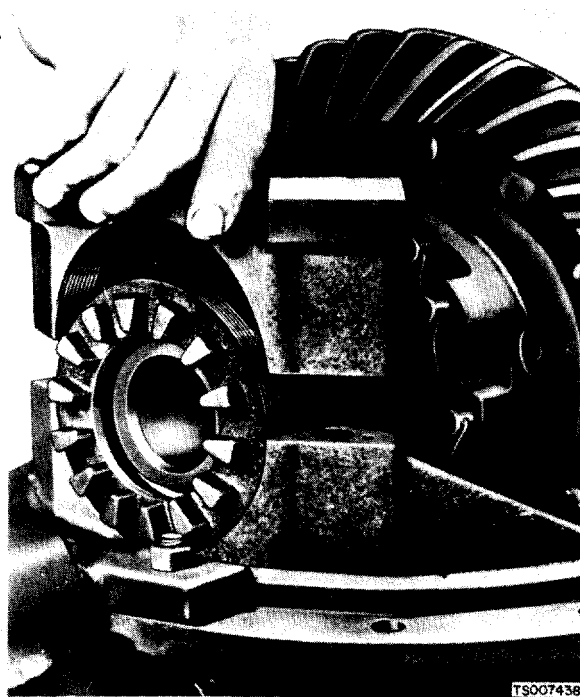

Figure 10-10. Installing Differential Bearing Caps.
(1) Press differential pinion bearings on pinion, using an arbor press and tubular pilot which will contact the inner race of the bearing only. Install pinion into differential carrier housing.
(2) Press differential bearings onto case assembly. Bolt ring gear to case and tighten screws around ring gear flange to 82 ft/lbs.
(3) Place thrust washers behind side gears and fit side gears into differential case. Position pinion gears in mesh with side gears, and with thrust washers in place, press side gear pin through pinions and case.
(4) Install differential assembly into housing, with bearing cups in place on differential case bearings. Position threaded adjuster nuts as shown in figure 10-10 and install bearing caps.
(5) Check ring gear and pinion contact by applying oiled red lead to the ring gear teeth. Rotate the pinion through one full turn of the ring gear. The red lead will be squeezed away from the areas of tooth contact, leaving bare spots on the ring gear teeth which are the exact size and shape of the tooth contact.
(6) The proper pattern (on drive side of teeth) will be centered between root and top of the ring gear teeth and will be slightly toward the toe of the tooth; that is, closer to the inside diameter. Adjust pinion in or out, and ring gear side-to-side, to obtain this pattern. Adjustment will be made by means of shims, installed under the differential and pinion bearing cups.
(7) Adjust nuts over differential bearings so that 5 - 15 in./lbs. of torque (on spring scale) is required to start ring gear turning. When this preload is obtained, install the nut lock and cotter pin to secure the adjustment.
(8) Differential is ready for assembly to drop gearcase. Refer to paragraph 10-3, under "Reassembly."